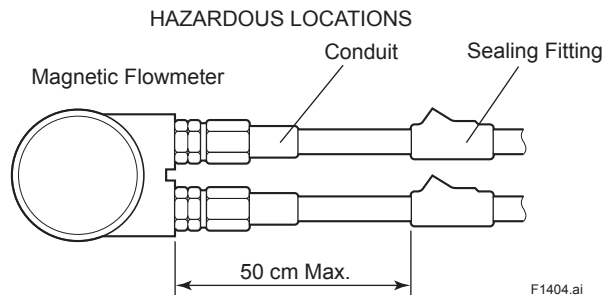

Figure 14.3 Conduit Wiring
- In hazardous location, wiring shall be in conduit as shown in Figure 14.3.